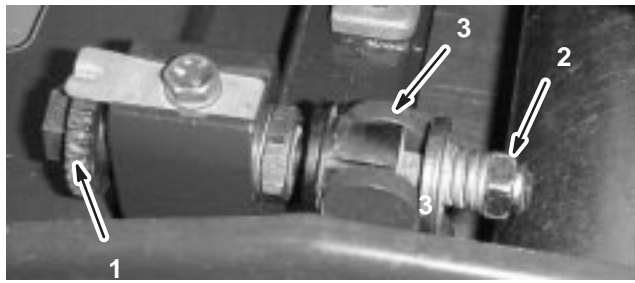

Figure 48
1. Turn bedbar adjuster screw, counterclockwise, to back bedknife away from reel (Fig. 48).
2. Back out the spring tension nut, until the washer is no longer tensioned against the bedbar (Fig. 48).